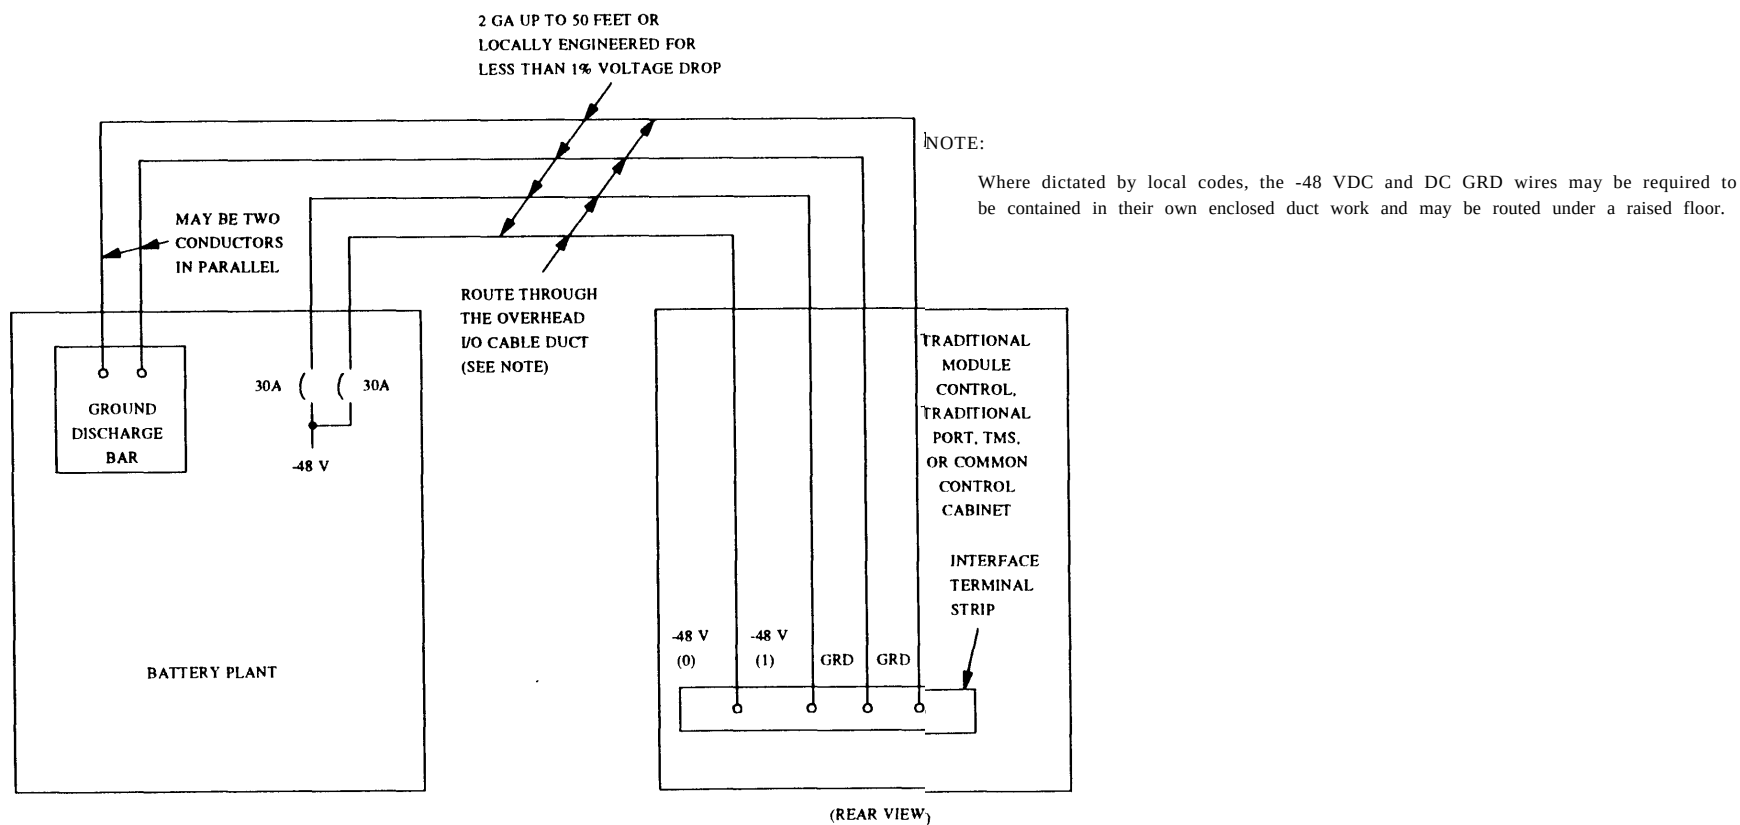

Figure 9-5. Block Diagram Connections for Duplicate -48 VDC and DC GRD Wiring
If the module control (MC) or port cabinets are equipped with 40 or more ANN17B MFAT circuit packs, refer to figure 9-5.
Connections that require two -48 VDC and DC GRD wires are shown in figure 9-5.